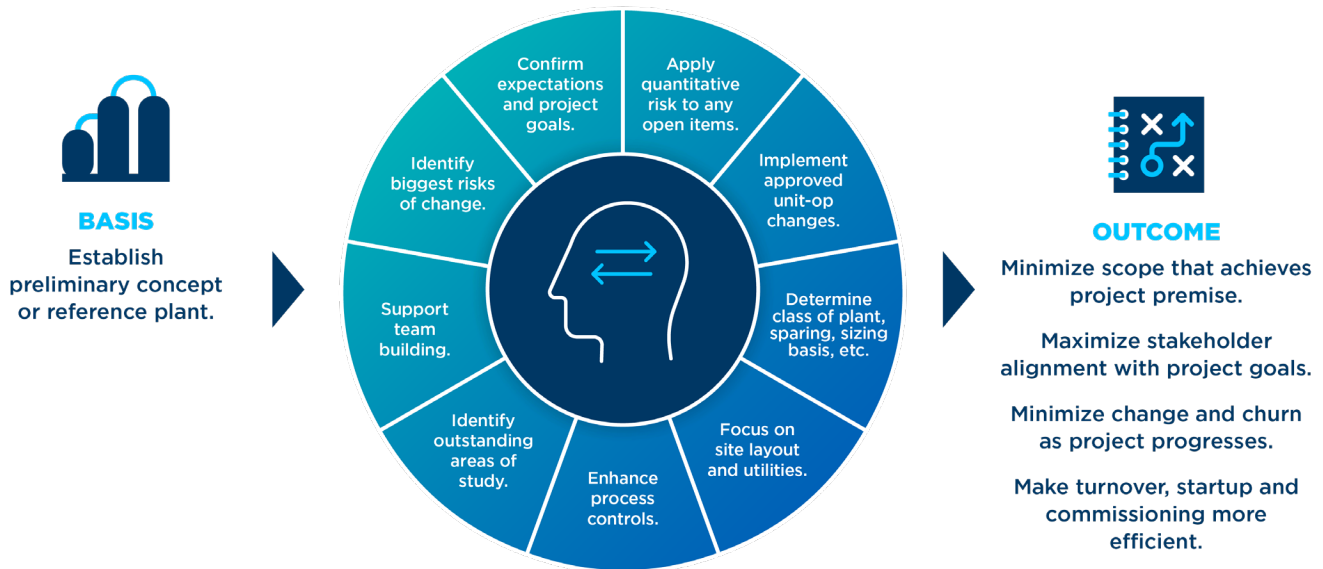

Figure 1: Knowledge transfer process.
In this context, a structured knowledge transfer (KT) process (see Figure 1) can help bridge these gaps by systematically aggregating relevant information and highlighting areas of uncertainty. In short, this is a formal approach for identifying and prioritizing areas of technical uncertainty early in the project. A well-executed knowledge transfer session should reduce indecision, see that all parties are aligned on the project scope and save time by reducing the likelihood of rework later in the project.